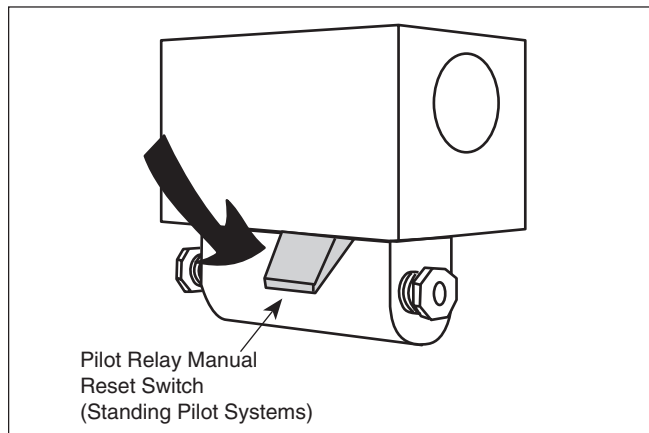

Figure 15. Pilot Safety Relay.
- e. For standing pilot system, press on pilot relay knob (see Figure 15), light pilot and keep relay knob depressed for one minute then release. Once the pilot is lit, turn power switch to “AUTO PUMP.”